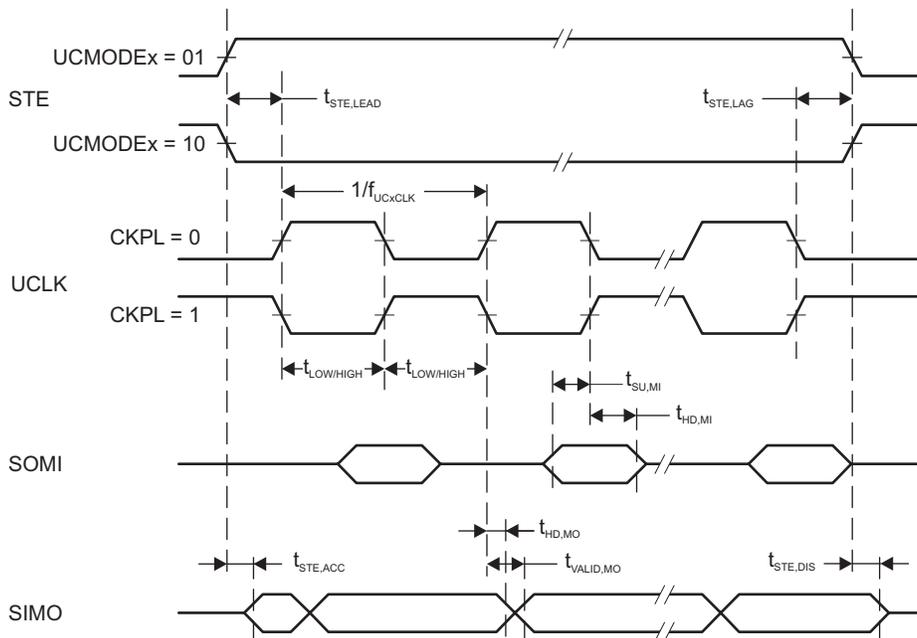
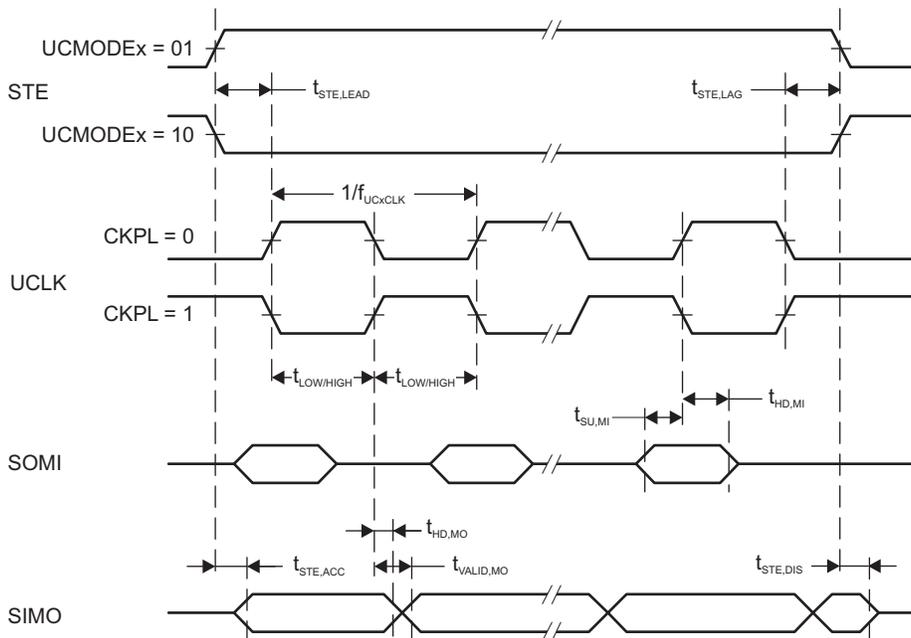

Figure 5-69. SPI Master Mode, CKPH = 0
Figure 5-70. SPI Master Mode, CKPH = 1
- (2) Specifies the time to drive the next valid data to the SIMO output after the output changing UCLK clock edge. See the timing diagrams in Figure 5-69 and Figure 5-70.
- (3) Specifies how long data on the SIMO output is valid after the output changing UCLK clock edge. Negative values indicate that the data on the SIMO output can become invalid before the output changing clock edge observed on UCLK. See the timing diagrams in Figure 5-69 and Figure 5-70.